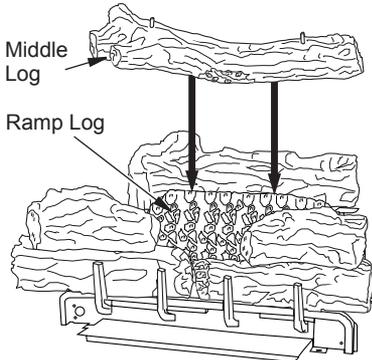

Figure 35 - Installing Middle Log
7. Place the middle log onto the ramp log as shown in Figure 35, page 22. The middle log has two tabs on the bottom to position from left to right on the ramp log. The front of the middle log should be touching the front left and right top logs.